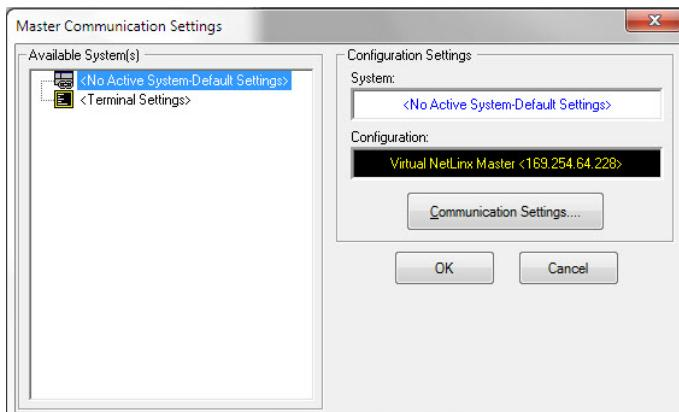

FIG. 32 Master Communications Settings dialog
2. In NetLinx Studio, select **Settings > Master Communication Settings** from the Main menu to open the *Master Communication Settings* dialog (FIG. 32).